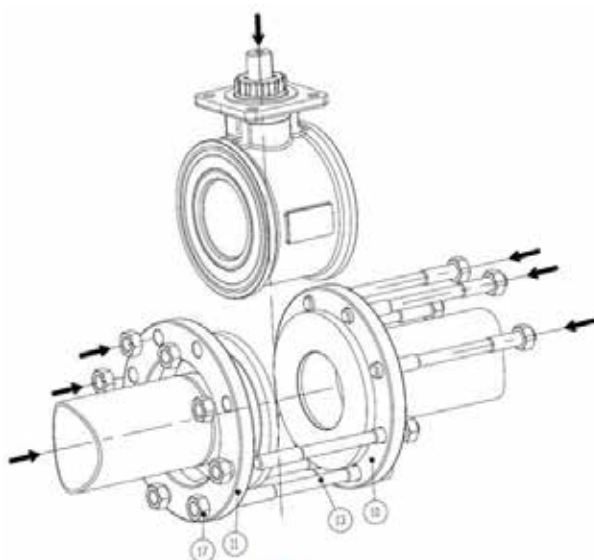
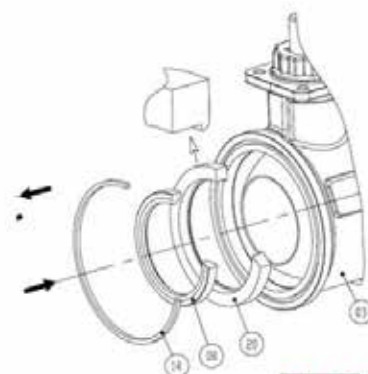
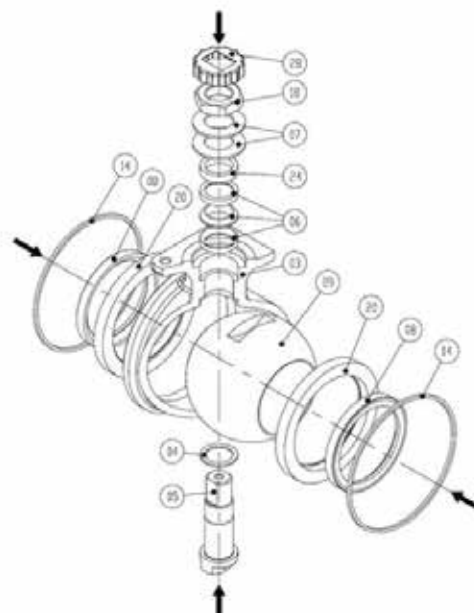

Fig 5
Fig 7
Fig 8
Seats (08), body seals (14), ball (09) replacement (Fig 5 & Fig 7)
1. Unscrew nuts (17) and boltings (13)
3. Operate a 90° turn in order for the ball (09) to be in the closed position
4. Push the ball (09) out of the valve body. Seat supports (20) are also pushed out
5. Take the seats (08) out of the seat supports (20)
6. Take body seals out (14)
- When re assembling the seats (08) and seat support (20), make sure it is done as per shown on figure 7
Packing (06) and stem seal (04) replacement (Fig 5, Fig 7 & Fig 8)
1. Unscrew one screw (13) and take it out with the spacer (12) and the nut (17) to allow valve body to be taken out
3. Operate 90° to allow the ball (09) to be in the close position
4. Push the ball (09) outside of the body. Seats (08) will be pushed as well
5. Take out Nut lock (28) and unscrew the nut (18)
6. Take spring washers (07) and gland (24)
7. Push the stem (05) inside the valve the stem seal keep staying on the stem
8. Take out stem (05) and replace stem seal (04)
9. Take out packing (06) from valve body and replace with a new one